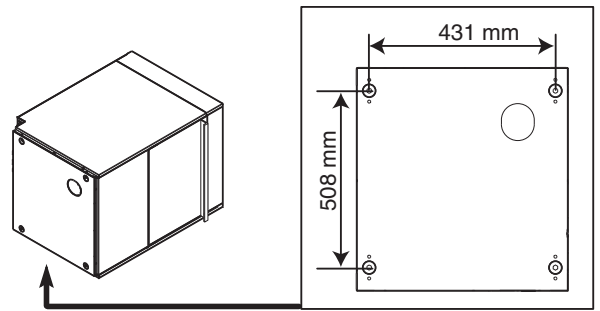

Figure 7
- Make four \varnothing 9mm though holes in the support, respecting distances given in Figure 7.